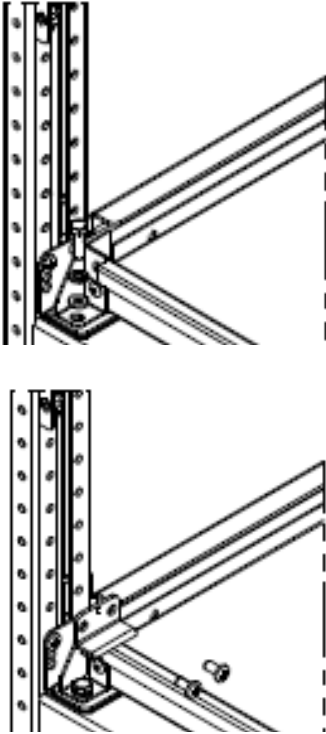

Fig. 5 - screws for tray block
2. Remove the tray block, on both sides, remove the screws as shown in Fig. 5; on each block is stamped the number referred to tray (see Fig. 4 for tray numbers)
Connect Positive (+) and negative (-) terminal of the assembled tray with a cable (pos.1÷3) having colored connector at one side (fig.5). Choose the color of the connector according with number of the tray and polarity as described below: